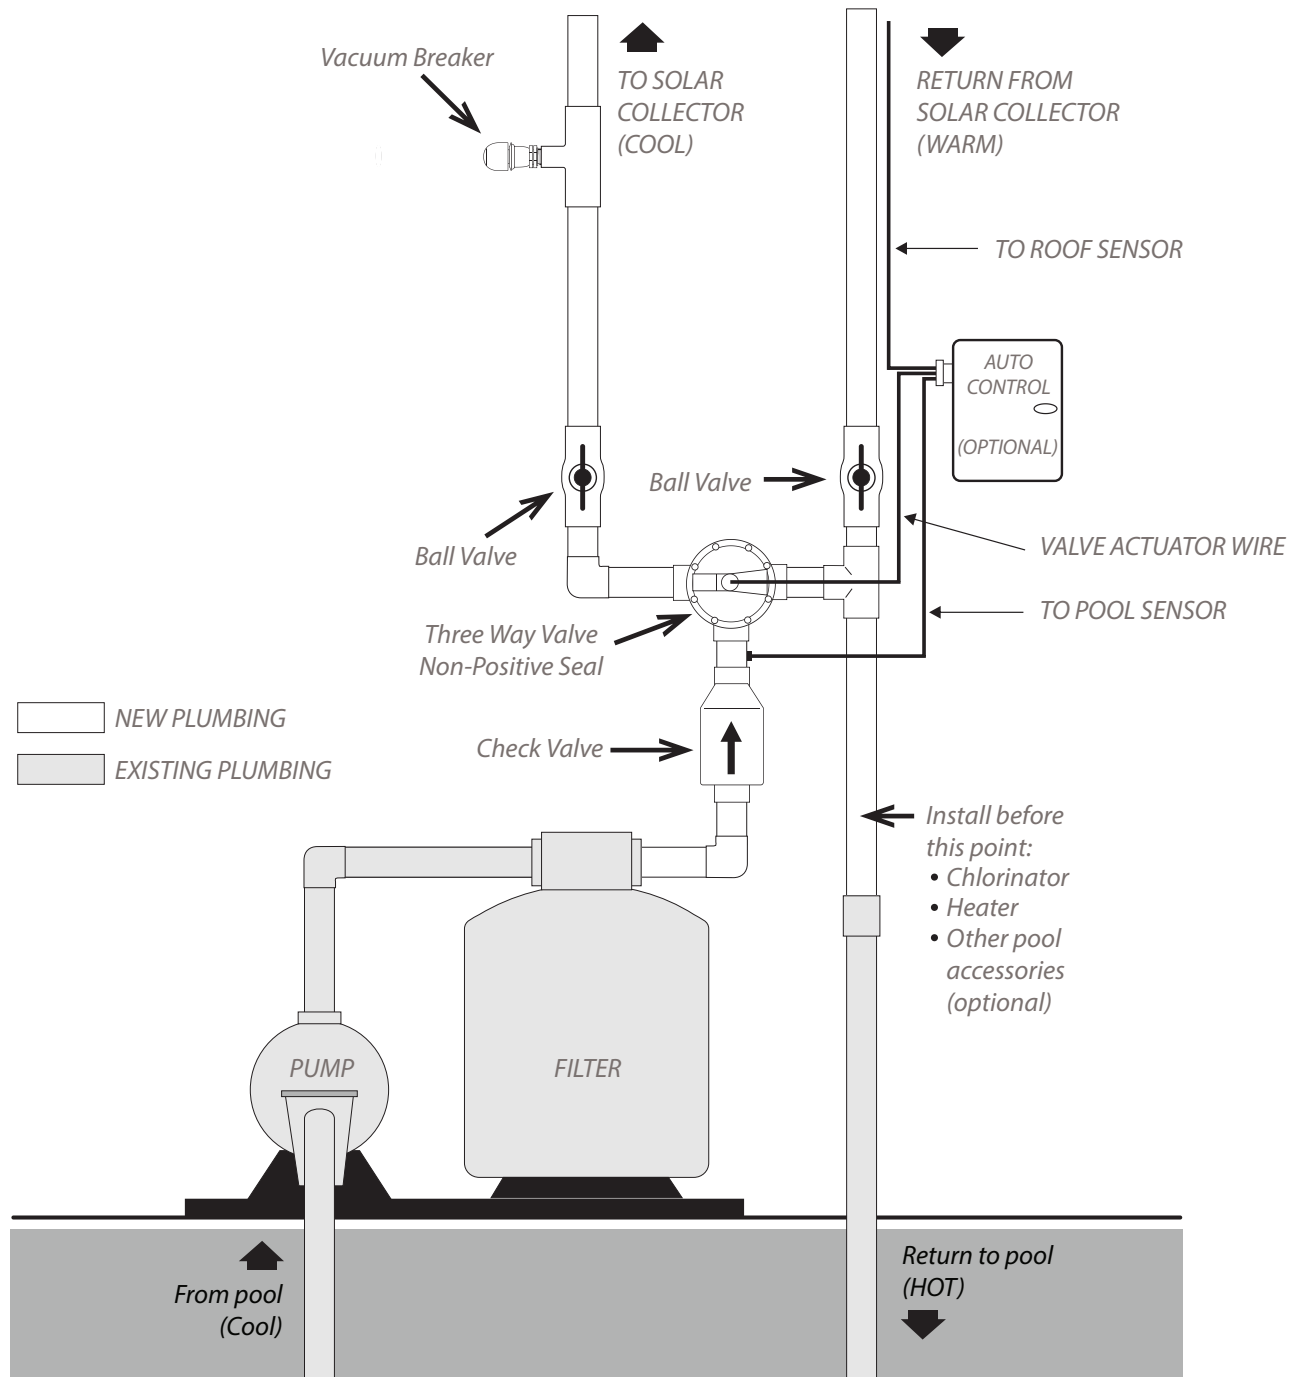

Fig. 13.1
2. Determine where the feed and return pipe will go over the edge of the roof. If possible, this should be perpendicular to the exact points where they will fasten into the existing system or into pipes coming from another location (see Fig. 13.1, page. 20).
Fig. 13.1 shows how a typical Suntrek ST solar pool heating system is plumbed into existing pool plumbing. This drawing may not be just like every system you encounter; the feed and return plumbing on a solar system may be reversed, or it may be a different type of filter, or it may have additional equipment such as a chlorinator, pool cleaner, gas heater, etc. It may also have a long run of plumbing from the pool equipment to the solar collectors.
Whether the system is like this or not, Fig. 13.1 will help you understand the flow of water from the pool, through the pump, filter, solar system, and back to the pool. Study the diagram and become familiar with the valves needed to connect the solar collectors to existing plumbing.
1. Study the plumbing after the filter and decide where you are going to install the check valve and the PVC tee fitting (see Fig. 13.1). If you have auxiliary equipment, you may need to re-plumb a portion of your existing plumbing so this equipment is located after the solar system as indicated in Fig. 13.1.
2. Cut the pipe after the filter where you have decided to locate the check valve and where your solar return pipe will attach to your existing pool return line. If your pool plumbing is 1-½", and you are running 2" plumbing to your solar system, you should be using 2" valves and piping for all of your new plumbing. Therefore you will need (2) 2"x1-½" reducer bushings to adapt your new 2" fittings to the existing 1-½" pipe.
6. Install the vacuum breaker about 4' up the feed line and above the top of the filter using a PVC tee and reducer bushing. Face the tee to the outside as shown in Fig. 13.1. Wrap the threads of the vacuum breaker with Teflon tape and screw it into the 3/4" threaded reducer bushing.